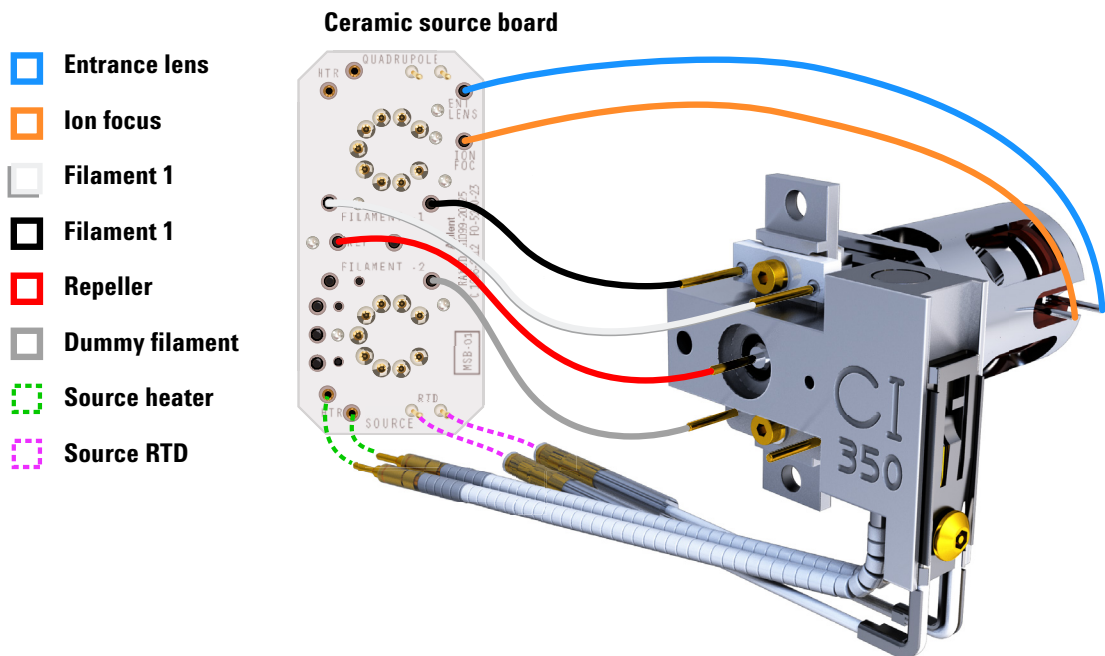

Figure 77 Wiring between the ceramic source board and the source
- 1 Use pliers to connect/disconnect the ceramic board wire leads (red, white, black, and gray) at the source connectors. (See **Figure 77**.)
- 2 Use pliers to connect/disconnect the source heater wire leads at the ceramic source board. (See **Figure 77**.)